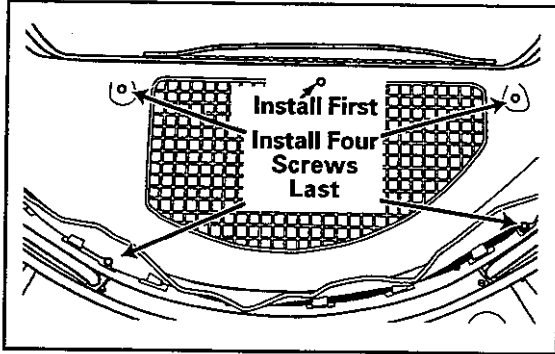

Figure 10-3
- When reattaching the outlet duct assembly to the tumbler front, install the center screw (found above the grid area) first, followed by the four outside screws in any order (Figure 10-3).